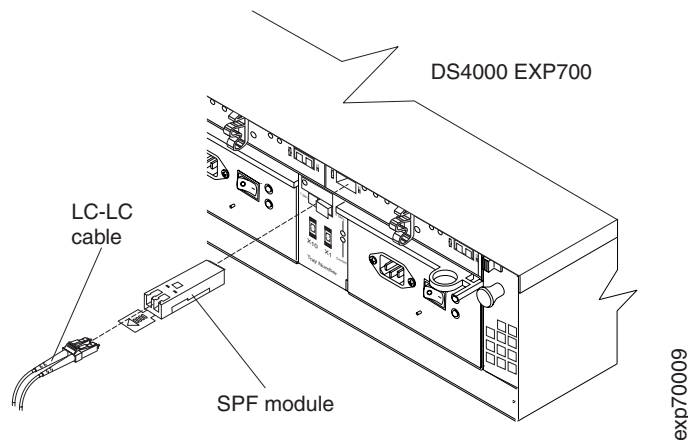

Figure 54. Installing an SFP module and connecting an LC-LC cable to the storage expansion enclosure
3. Install an SFP module in the SFP port on the back of the storage expansion enclosure; then, connect the other end of the LC-LC cable into the SFP module, as shown Figure 54.